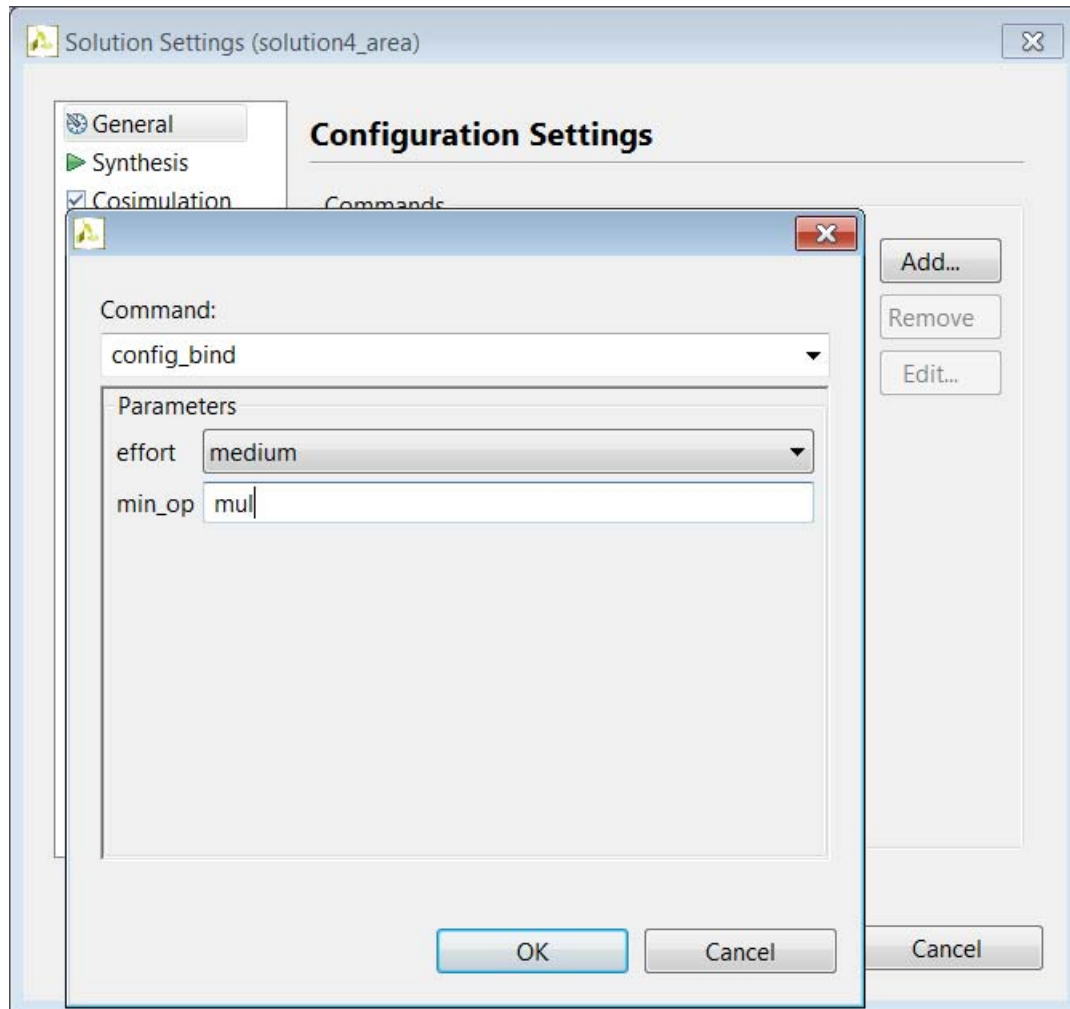

Figure 1-46: Adding Custom Constraints
5. Specify **mul** in the **min\_op** (minimize operator) field, as shown in Figure 1-46.